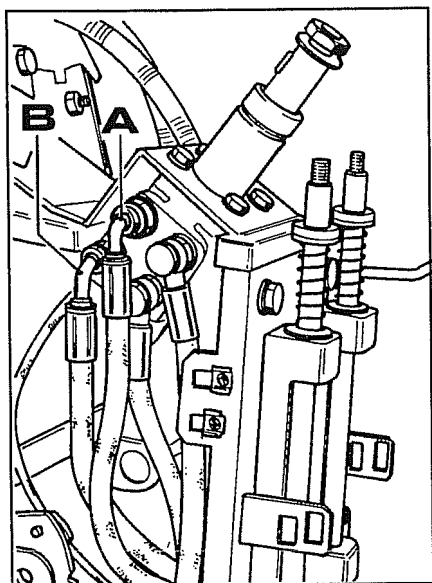

Fig. 14
14. Disconnect the drain pipe **A** Fig. 14 from the power steering to the transmission. Then disconnect delivery pipe **B** from the prioritising valve to the power steering.